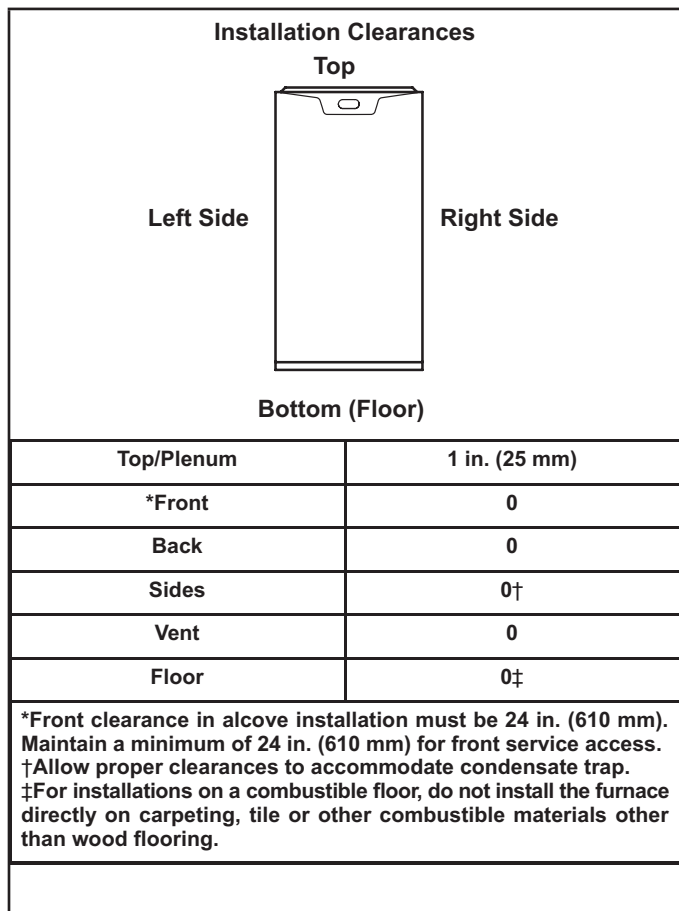
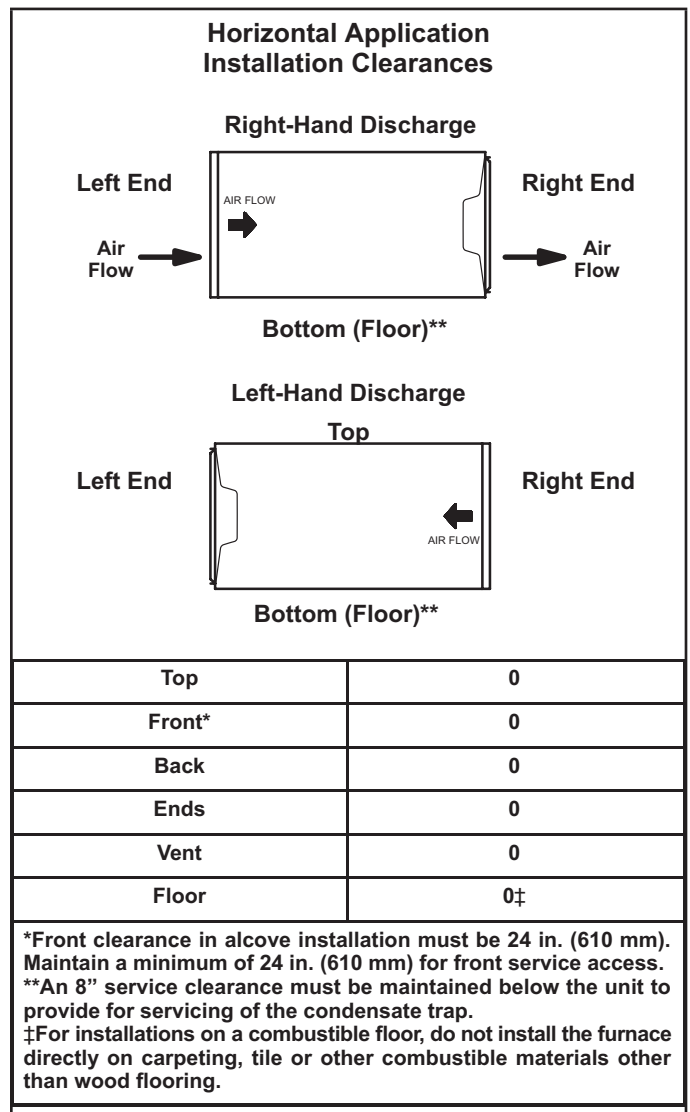

FIGURE 10
FIGURE 11
This furnace is designed for installation clearances to combustiblenaterial as listed on the unit nameplate and in the tables in FIGURE 10 and FIGURE 11. Accessibility and service clearances must take precedence over fire protection clearances.
The SLP99UHVK gas furnace can be installed as shipped in the upflow position. Refer to FIGURE 10 for clearances. Select a location that allows for the required clearances that are listed on the unit nameplate. Also consider gas supply connections, electrical supply, vent connection, condensate trap and drain connections, and installation and service clearances [24 inches (610 mm) at unit front].
Allow for clearances to combustible materials as indicated on the unit nameplate. Minimum clearances for closet or alcove installations are shown in FIGURE 10 and FIGURE 11.
The SLP99UHVK furnace can be installed in horizontal applications with either right- or left-hand air discharge. Refer to FIGURE 11 for clearances in horizontal applications
- 1 - Select location for unit keeping in mind service and other necessary clearances. See FIGURE 11.